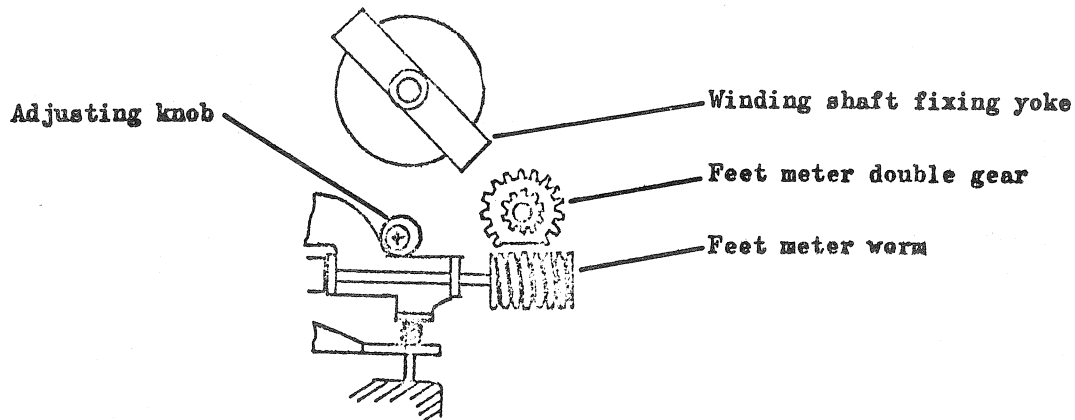

Fig. 49
- 12-1. Before fixing the footage counter with the shaft, position the footage counter double gear as shown in Fig. 49.
The stopping position of the footage counter worm gear can be adjusted by turning the adjusting knob shown in Fig. 49 (1). The best stopping position for the footage counter worm gear is for the worm gear tooth top to be as close as possible to the tooth bottom of the double gear without touching. If too close, the worm gear tooth top would touch the double gear top bottom and frictional losses would be great. If too far apart the worm gear may be pushed back and the feet meter indicator would not operate.